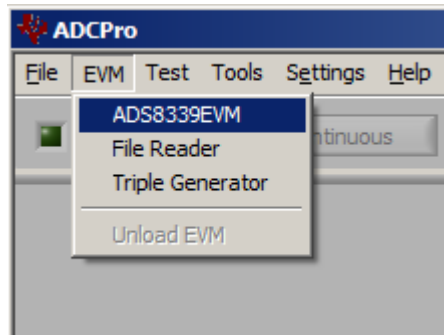

Figure 10. Loading EVM Plug-In
- Step 4. Load the ADS8339EVM plug-in from the ADCPro *EVM* drop-down menu, as shown in Figure 10. Note that only one EVM plug-in can be loaded at a time. If a different plug-in is selected, the previous plug-in is unloaded and the MMB0 restarted.